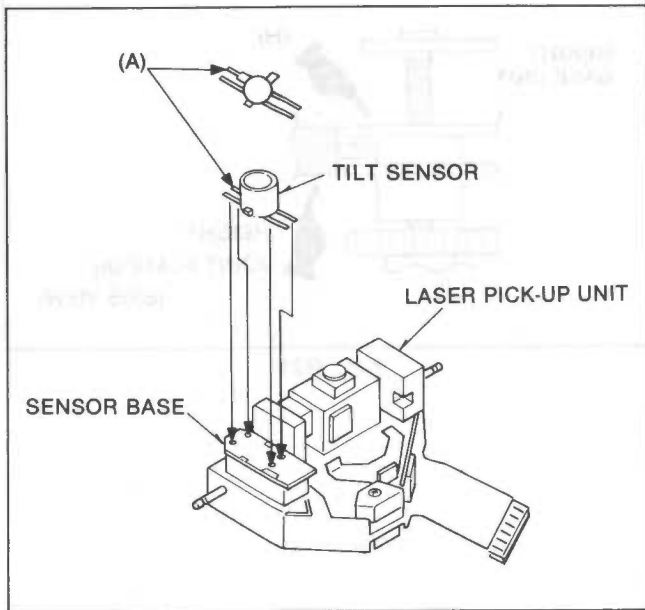

Fig. R22
- Place the new Tilt sensor on the sensor Base so that position (A) of Tilt Sensor match the upper right corner of sensor Base as shown in Fig. R22 .